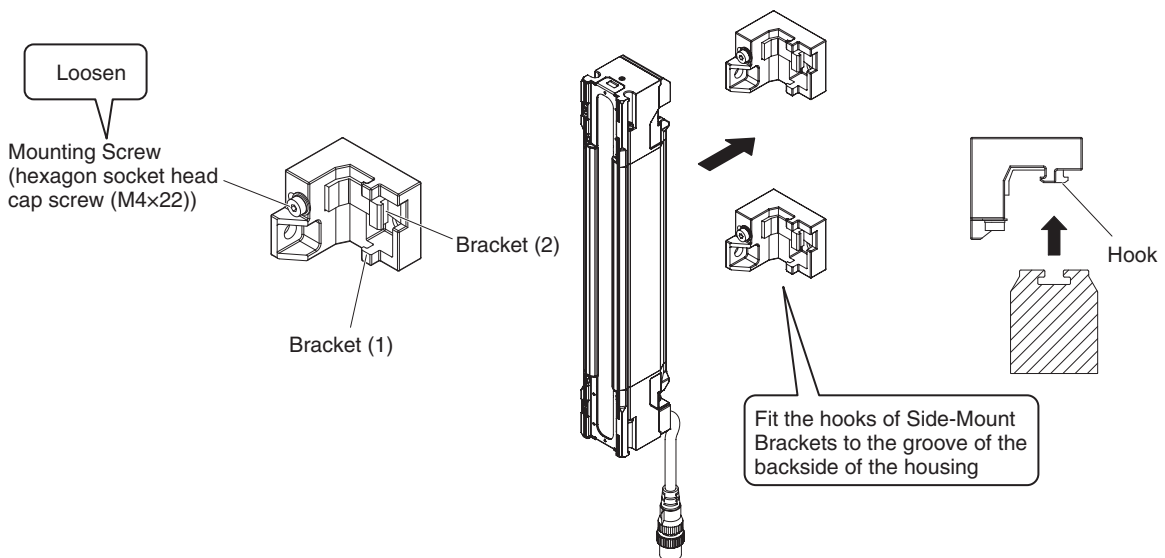

Fig. 2
- Fully loosen the Mounting Screws (hexagon socket head cap screw (M4×22)). Fit the Brackets (1) and (2) to the backside of the sensor housing so that the groove of the backside of the housing receives the hooks of the Brackets (1) and (2). (Fig. 2)